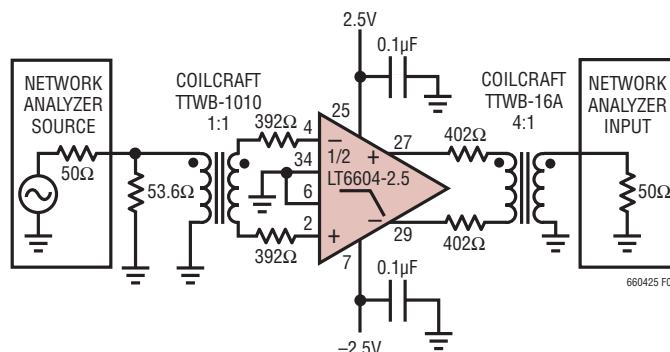

Figure 5
Figure 5 is a laboratory setup that can be used to characterize the LT6604-2.5 using single-ended instruments with 50Ω source impedance and 50Ω input impedance. For a 12dB gain configuration the LT6604-2.5 requires a 402Ω source resistance yet the network analyzer output is calibrated for a 50Ω load resistance. The 1:1 transformer,
53.6Ω and 392Ω resistors satisfy the two constraints above. The transformer converts the single-ended source into a differential stimulus. Similarly, the output of the LT6604-2.5 will have lower distortion with larger load resistance yet the analyzer input is typically 50Ω . The 4:1 turns ($16:1$ impedance) transformer and the two 402Ω resistors of Figure 5, present the output of the LT6604-2.5 with a 1600Ω differential load, or the equivalent of 800Ω to ground at each output. The impedance seen by the network analyzer input is still 50Ω , reducing reflections in the cabling between the transformer and analyzer input.